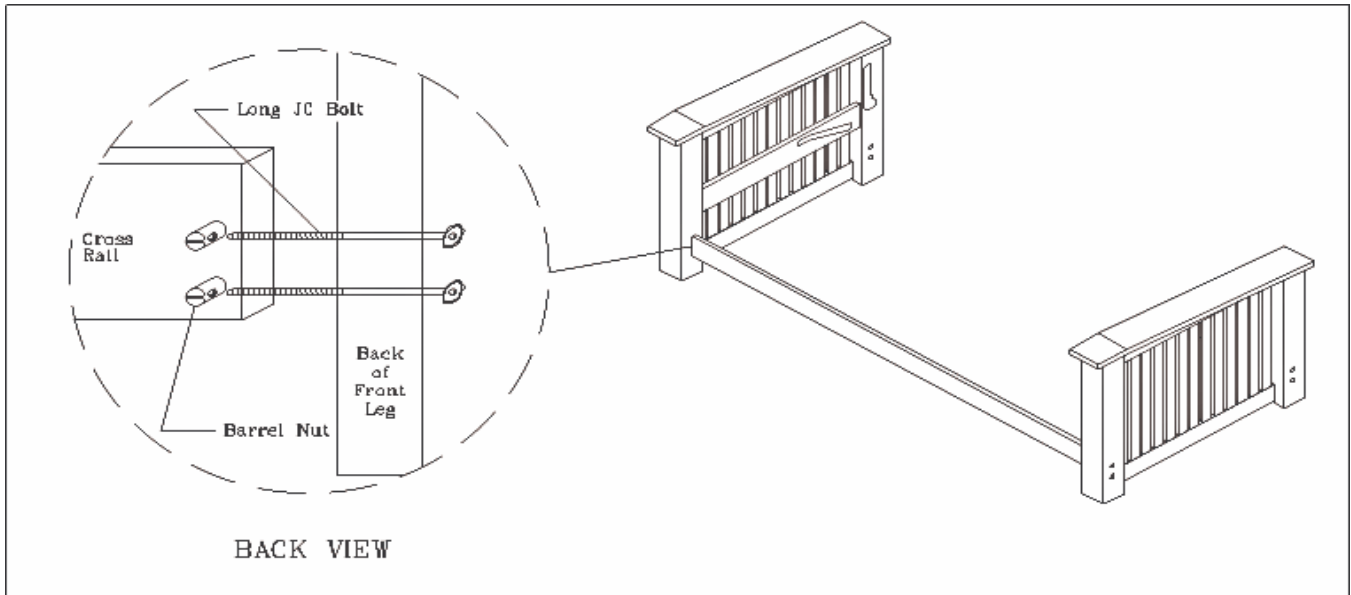

Figure 5
- 6) Locate arm assemblies and one of the cross rails. Place a barrel nut in each hole in side of cross rail. Make sure that the threaded holes in barrel nuts line up with holes in ends of rail and that the slotted end of barrel nut is exposed (Figure 5). Also, make sure that the rail marked “Front” is facing with the metal guards up and the front sticker to the inside of the frame.
- 8) Place Long JC bolt through top hole in outside of arm assembly’s front leg and start it into a barrel nut in one of the cross rails. Be sure slotted end of barrel nuts are toward inside of frame. **DO NOT TIGHTEN!** If bolt won’t start, use slotted screwdriver to position barrel nut. Leave about 1/4” of play. Place Long JC bolt through bottom hole and start it, also leave 1/4” of play. Repeat procedure for other arm. When all 4 bolts are set, gently pull back legs apart just past point of armrest being parallel (Figure 5).
- 11) Tighten JC bolts in front leg. Fasten remaining cross rail to back legs of arm assembly as shown in Figure 5 but using Short JC bolts instead. Tighten securely.